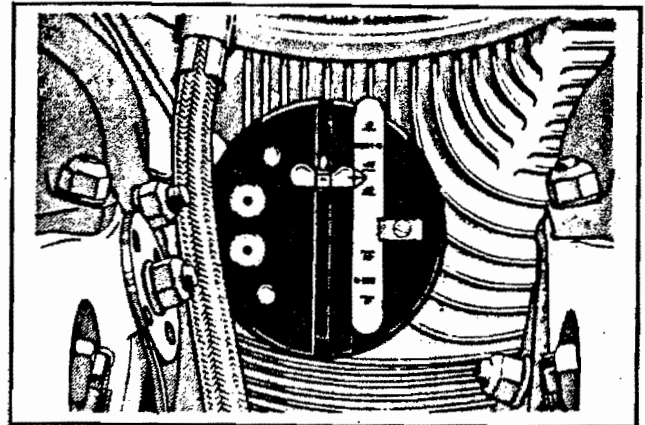
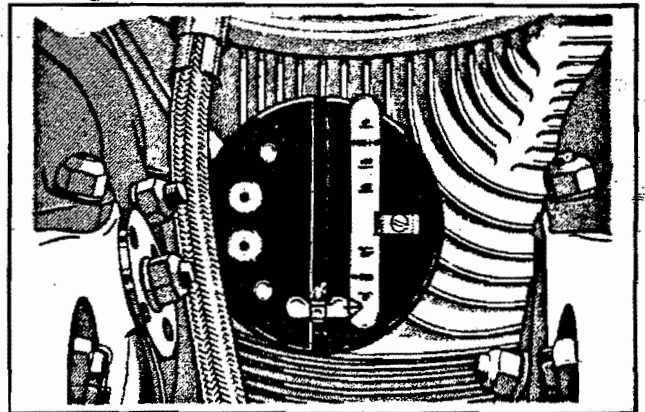

Figure 7-17. Slide Close To Pivot Arm
Figure 7-18. Slide at Farthest Point
c. Attach the red wires of PWA-2417 Indicator to the breaker points of the magnetos and ground the black wire to the engine. Turn the ignition switch in the cockpit to the "Both" position. Align the cap of R85-I-4075 Indicator so that the slide slot lines up with the vertical axis of the cylinder and the scale is at the right of the slot. Push the slide pointer up close to the pivot arm [Figure 7-17]. Turn the crankshaft in the normal direction of rotation until the pivot arm pushes the slide pointer to its farthest point [Figure 7-18]. Turn the crankshaft 90 degrees opposite rotation to return the pivot arm to the top of the slot. Adjust the proper engine scale (the scale is marked R-985) so that the zero degree mark on the scale aligns with the reference mark on the